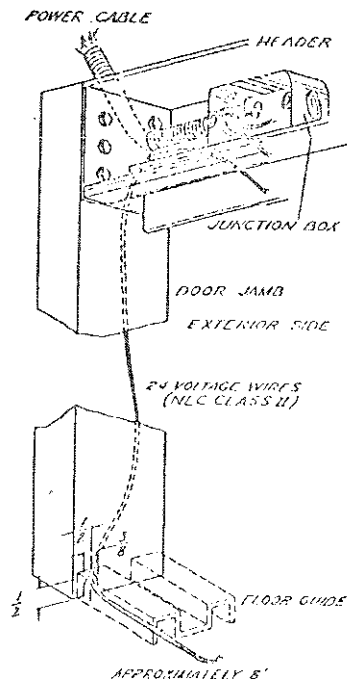

FIG. 4 Carpet switch lead wires in door jamb.
4. If carpets are to be installed cut a notch at the bottom end of the L. H. jamb, and install the low voltage mat wire as shown in FIG. 4. Disregard if other type activating device is used.